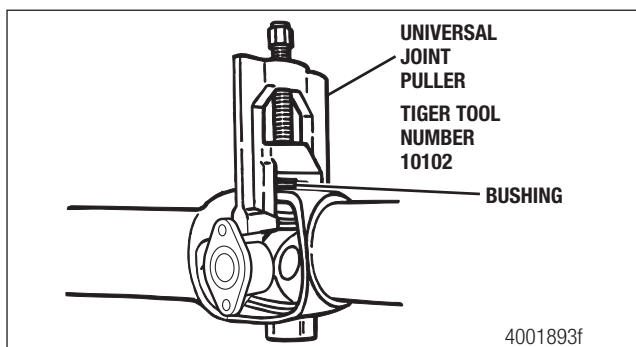

Figure 6.1
3. Remove the first bearing cup. If necessary, use a bearing puller to remove the bearing cup from the yoke bore. Figure 6.1.